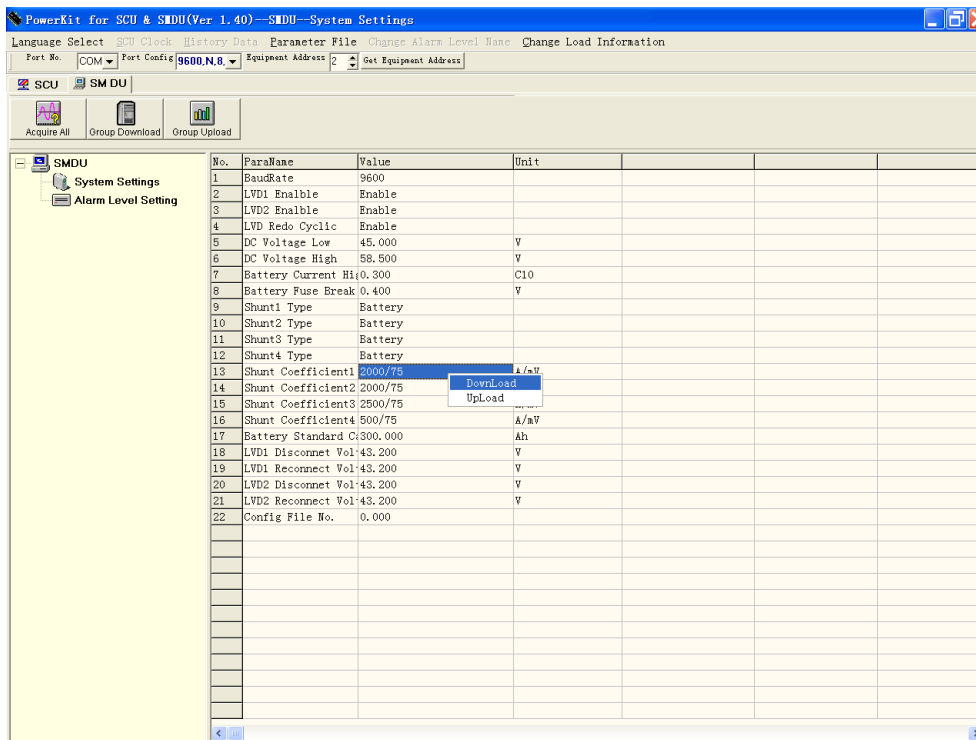

Figure 7-7 Download parameter
8. Click the right mouse button. Select **Download** to download shunt coefficient 1 to SM DU, as shown in Figure 7-7.